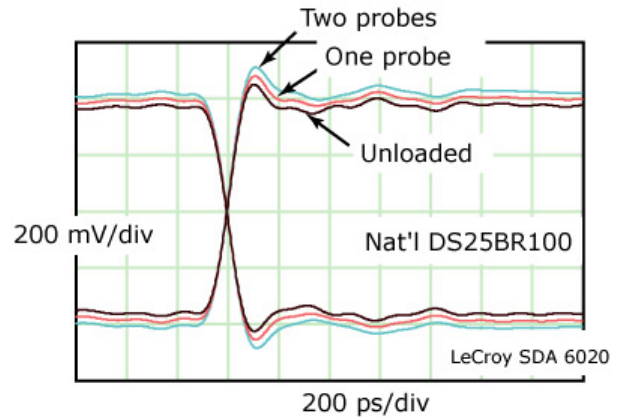

Fig. 2—The output of this differential driver *increases* when loaded with a differential probe.
**Figure 2** plots the results when measuring a National Semiconductor DS25BR100 driver. This
The LeCroy differential probe is different. It presents a load of 2K ohms to ground on each side. From a common-mode perspective, that's a 1K load to ground. This load draws a small amount (1.2 mA) of common-mode current from the driver. As differential probes go, that is pretty good. Some high-speed probes draw much more. I think the common-mode current drawn by this differential probe is causing the waveform amplitude artifacts in **Figure 2**.